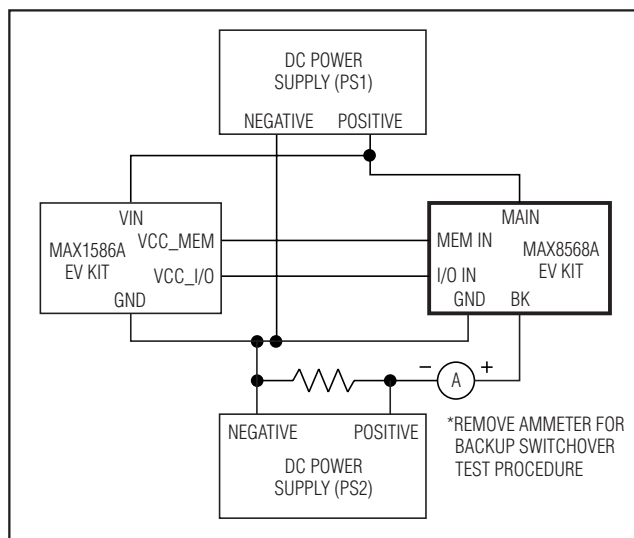

Figure 1. Quick-Start Wiring Diagram
- 5) Connect the VIN pad of the MAX1586A EV kit, as shown in Figure 1, to the MAIN pad of the MAX8568A EV kit.